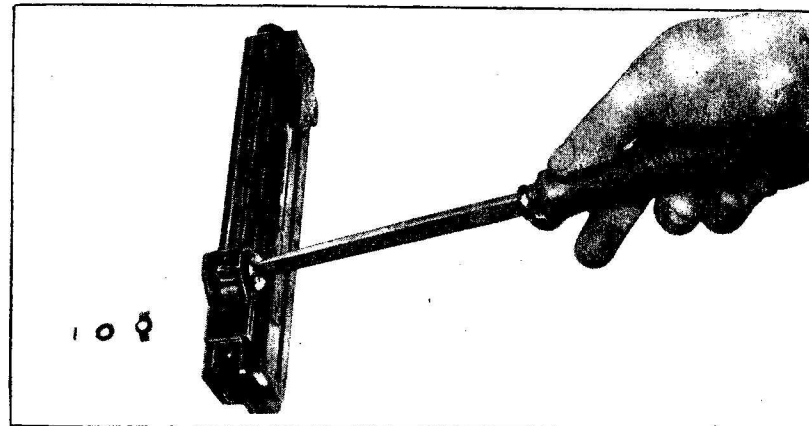

Fig 78
2. con attrezzo 108 svitare in senso antiorario la vite diottra (fig. 78)
2. *with tool 108 unscrew anticlockwise the aperture sight and remove it (figure 78).*